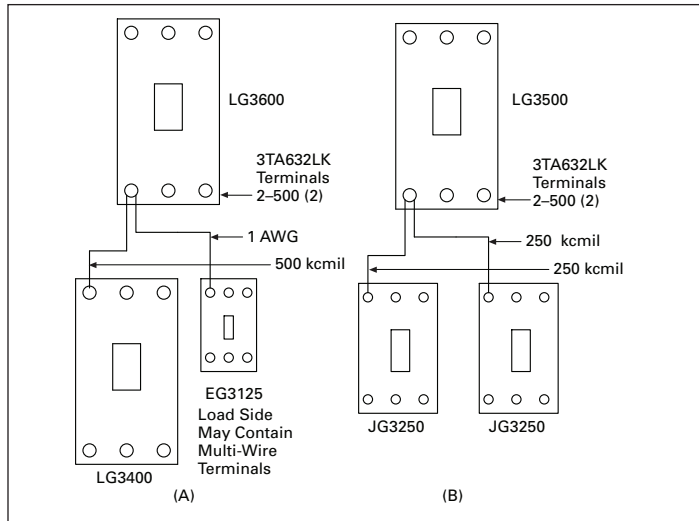

Figure 5. LG Breaker
The LG3600 circuit breaker contains terminals capable of handling two wires, each for sizes 2 AWG to 500 kcmil. **Figure 5** illustrates an LG3400 breaker, as well as an EG3125 tapped from the LG3600. Taps are shown at full-capacity for each breaker. While trip units could be smaller, the smallest cable size that may be used is 2 AWG due to the lower limit of the upstream or main breaker terminals; here, cable-size is the limiting feature. In practice, the LG3600 may contain a lower-ampacity trip unit to avoid the necessity to oversize the incoming cable.
**Figure 5** illustrates two JG3250 breakers tapped from the LG3500. In practice, the LG3500 is used to avoid the necessity to oversize the incoming cable.